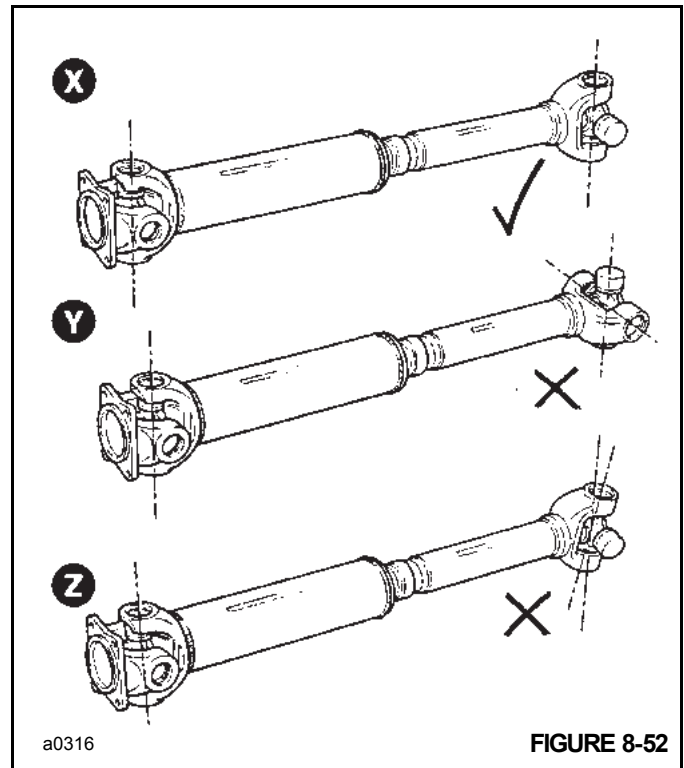

FIGURE 8-52
**NOTE:** The drive shaft must have both ends exactly on the same plane as shown in **X** Figure 8-52. The yokes must not be at right angles as at **Y** or at an intermediate angle as at **Z**.